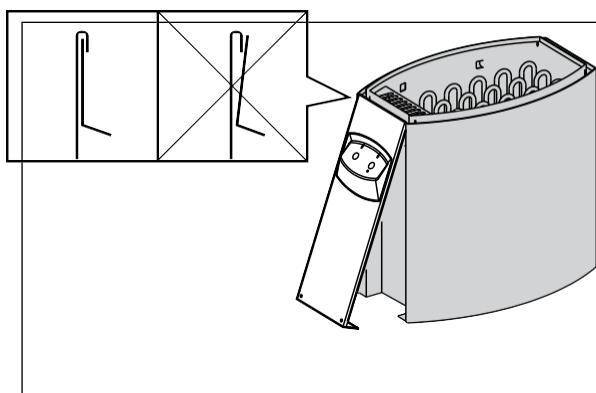

Figure 8. Closing the cover of the connection box (all dimensions in millimeters)
- The heater is semi-stationarily connected to the junction box (figure 8: A) on the sauna wall. The junction box must be splash-proof, and its maximum height from the floor must not exceed 500 mm.
- The connecting cable (figure 8: B) must be of rubber cable type H07RN-F or its equivalent. **notE! Due to thermal embrittlement, the use of PVC-insulated wire as the connecting cable of the heater is forbidden.**
- When closing the cover of the connection box make sure that the upper edge of the cover is placed correctly.** If the upper edge is misplaced water can enter the connection box. Figure 8.